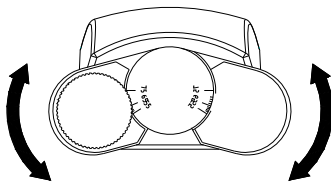

Fig.24
3.3.5 Adjusting the Interpupillary Distance (Fig.24)